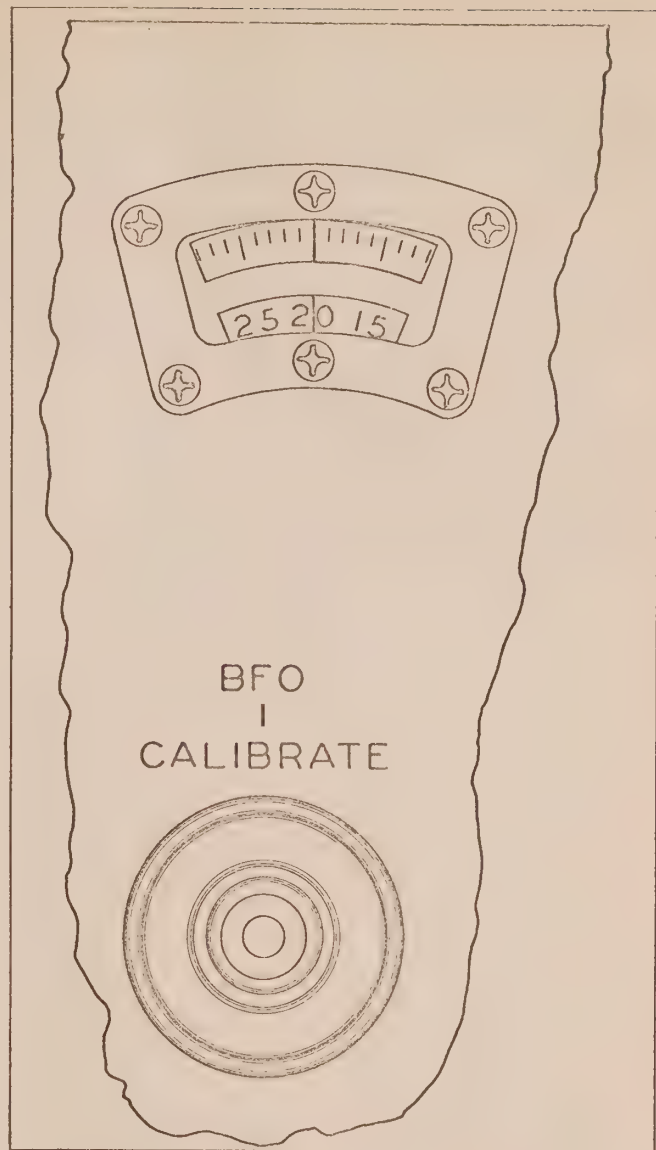

Figure 2-8. Calibrate and BFO Details
(4) BFO-CALIBRATE CONTROL. — This receiver has been provided with a system of calibration that permits the tuning of the receiver circuit to any exact frequency without having to tune for an incoming signal. The BFO-CALIBRATE control, (figure 2-8,) tunes the three i-f transformers and the beat frequency oscillator grid tank circuit by changing the positions of slugs within the inductors. The operation of this control also applies plate and screen voltages to the cfi (crystal-controlled frequency indicator,)